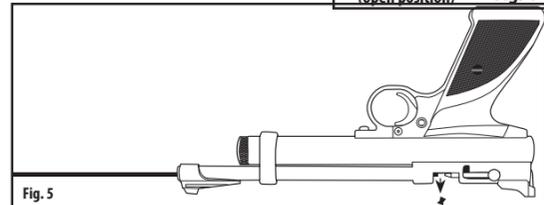

Fig. 5
4. With the bolt in the open position, insert a ramrod (sold separately) into the muzzle end of the barrel and gently push the jammed pellet in to the pellet loading port (forward of the bolt) (Fig. 5).